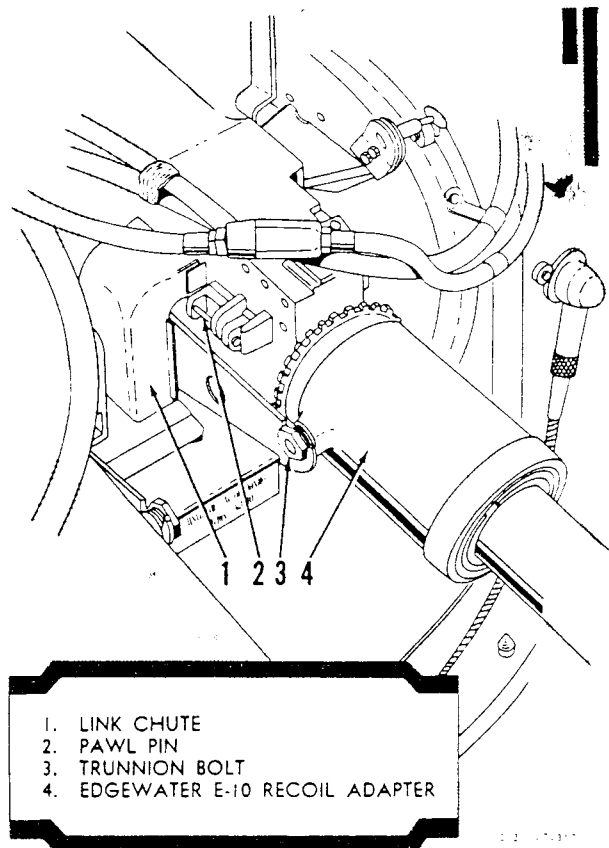

Figure 2-34. Edgewater Recoil Adapter
- b. Replace original trunnion adapter with an Edge-water adapter, type E-10 (figure 2-34), screwing adapter on barrel jacket with a spanner wrench.